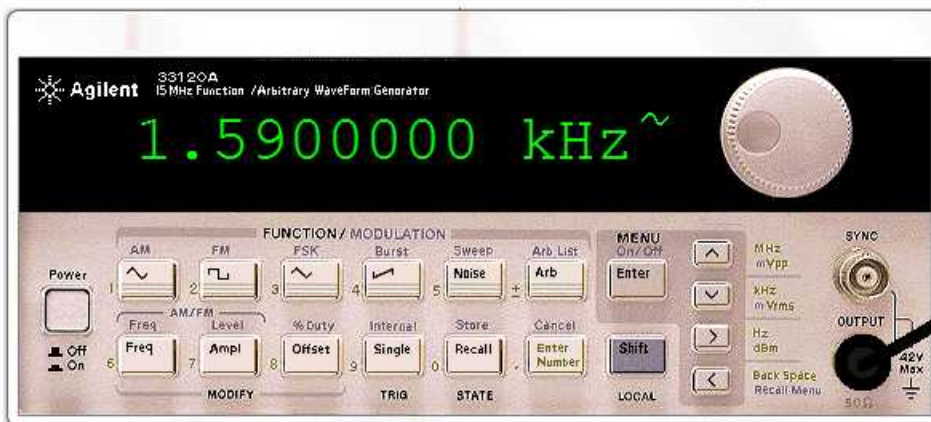

Figure 3-9: RC high-pass filter, real world circuit connection
2. Build the circuit as illustrated in figure 3-9, high-pass filter real world circuit connection.